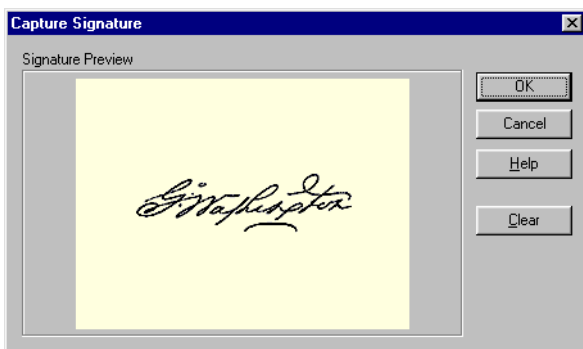

Figure 31: Captured Signature
- Have the cardholder take the stylus in hand and enter a signature, just like signing a piece of paper. As the signature is written, it appears in the Capture Signature window (see Figure 31).